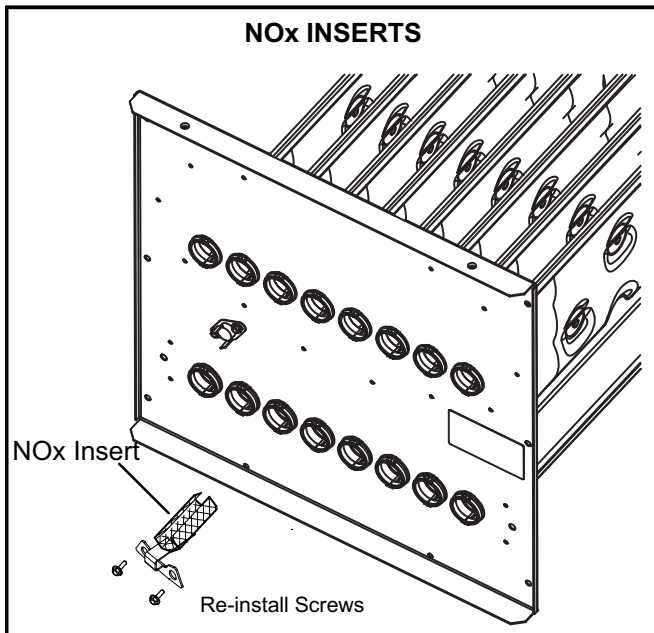

FIGURE 1
- 7 - **ML180(X), EL180(X) and 80AF1(X) NOx units being converted from natural to LP /Propane.**
- b - Remove the screws which secure each of the NOx inserts to the clamshell. **Remove the NOx inserts and reinstall the screws. See figure 1.**